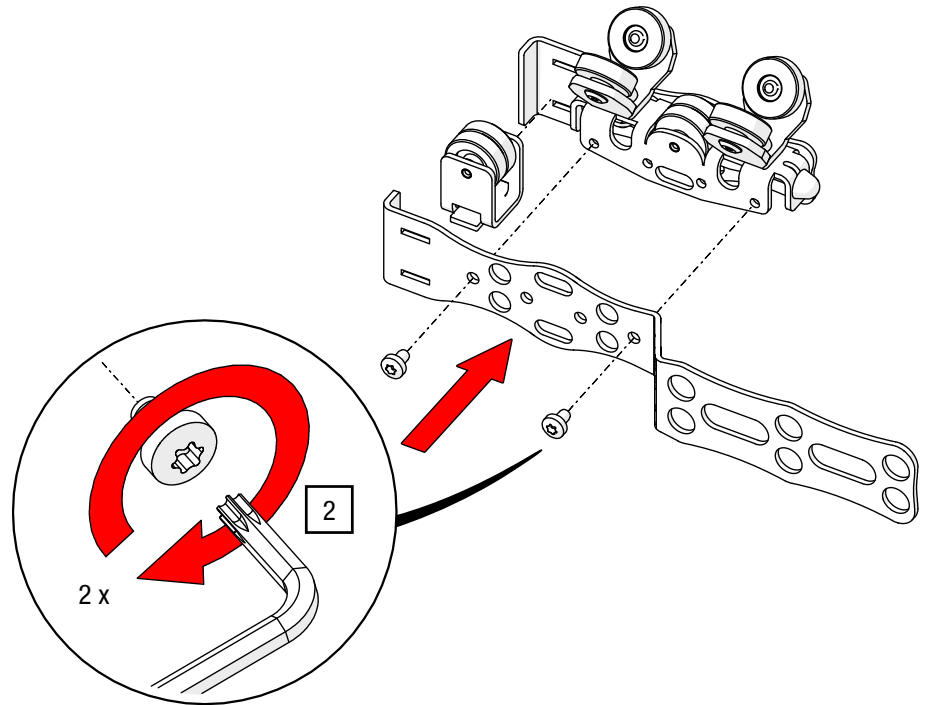

Fig. 54: Conversion of master runner with overlap arm – Mount overlap arm
2. Insert the support roller into the groove provided, screw the master runner to the overlap arm and the lateral eyelet plate using a TORX®-key T20 until the plate is flush with the master runner (see Fig. 54).